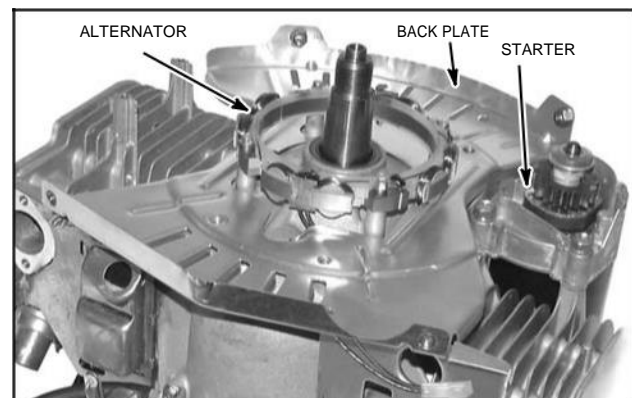

Fig. 12 – Install Alternator
2. Install alternator, Fig. 12.